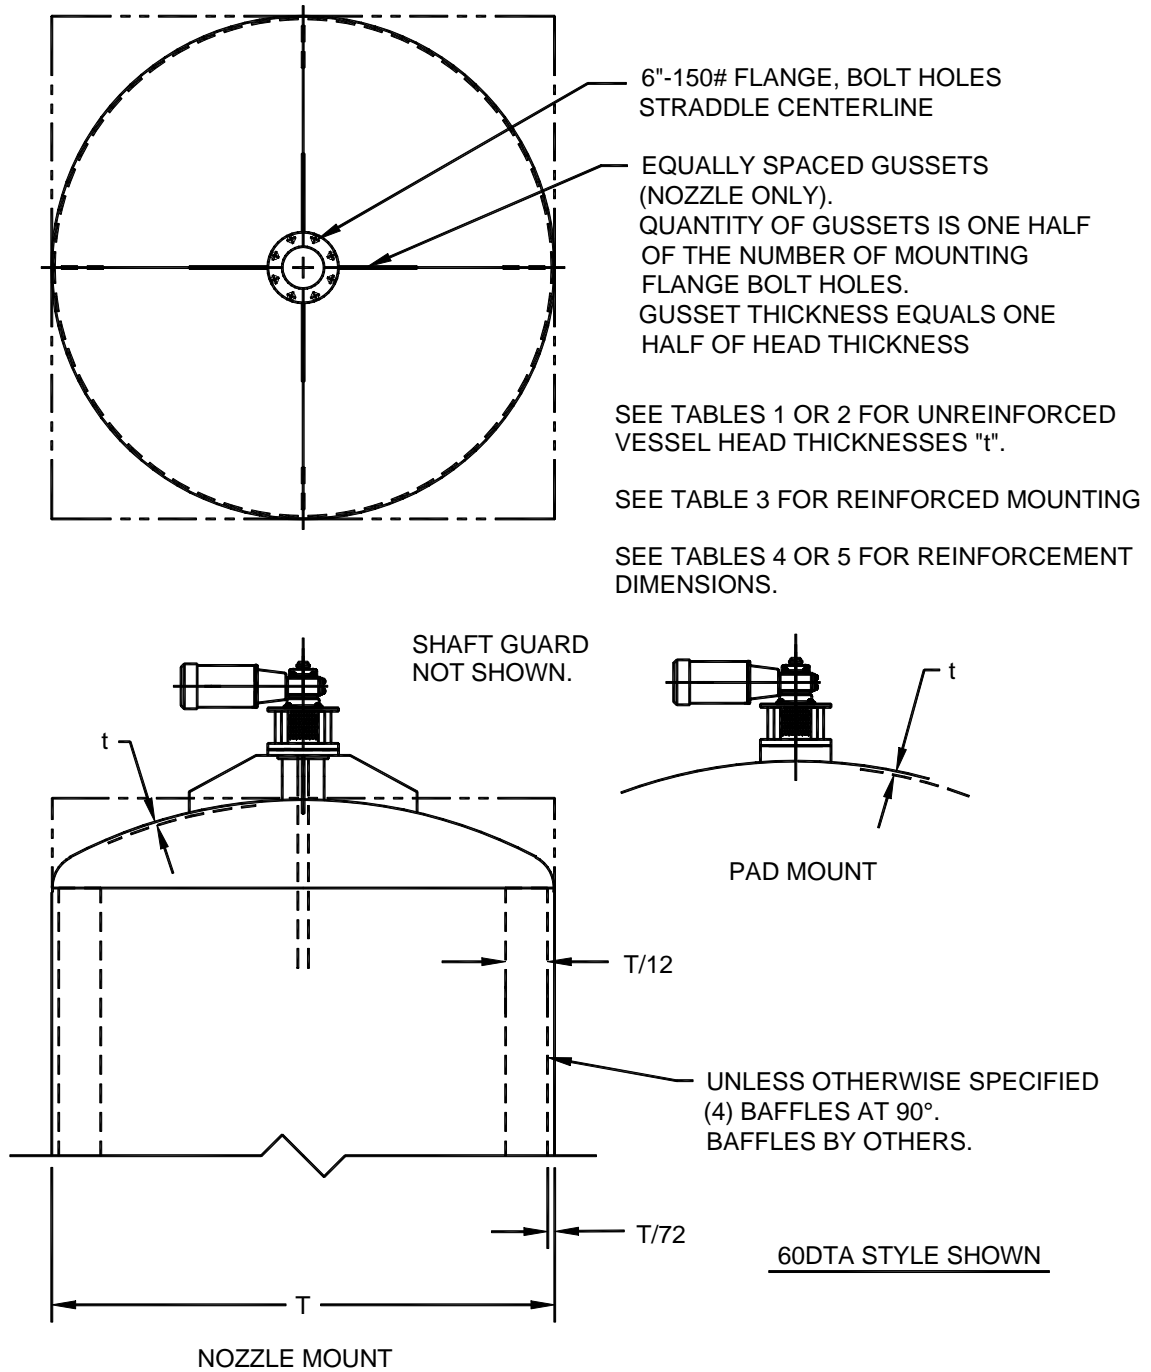
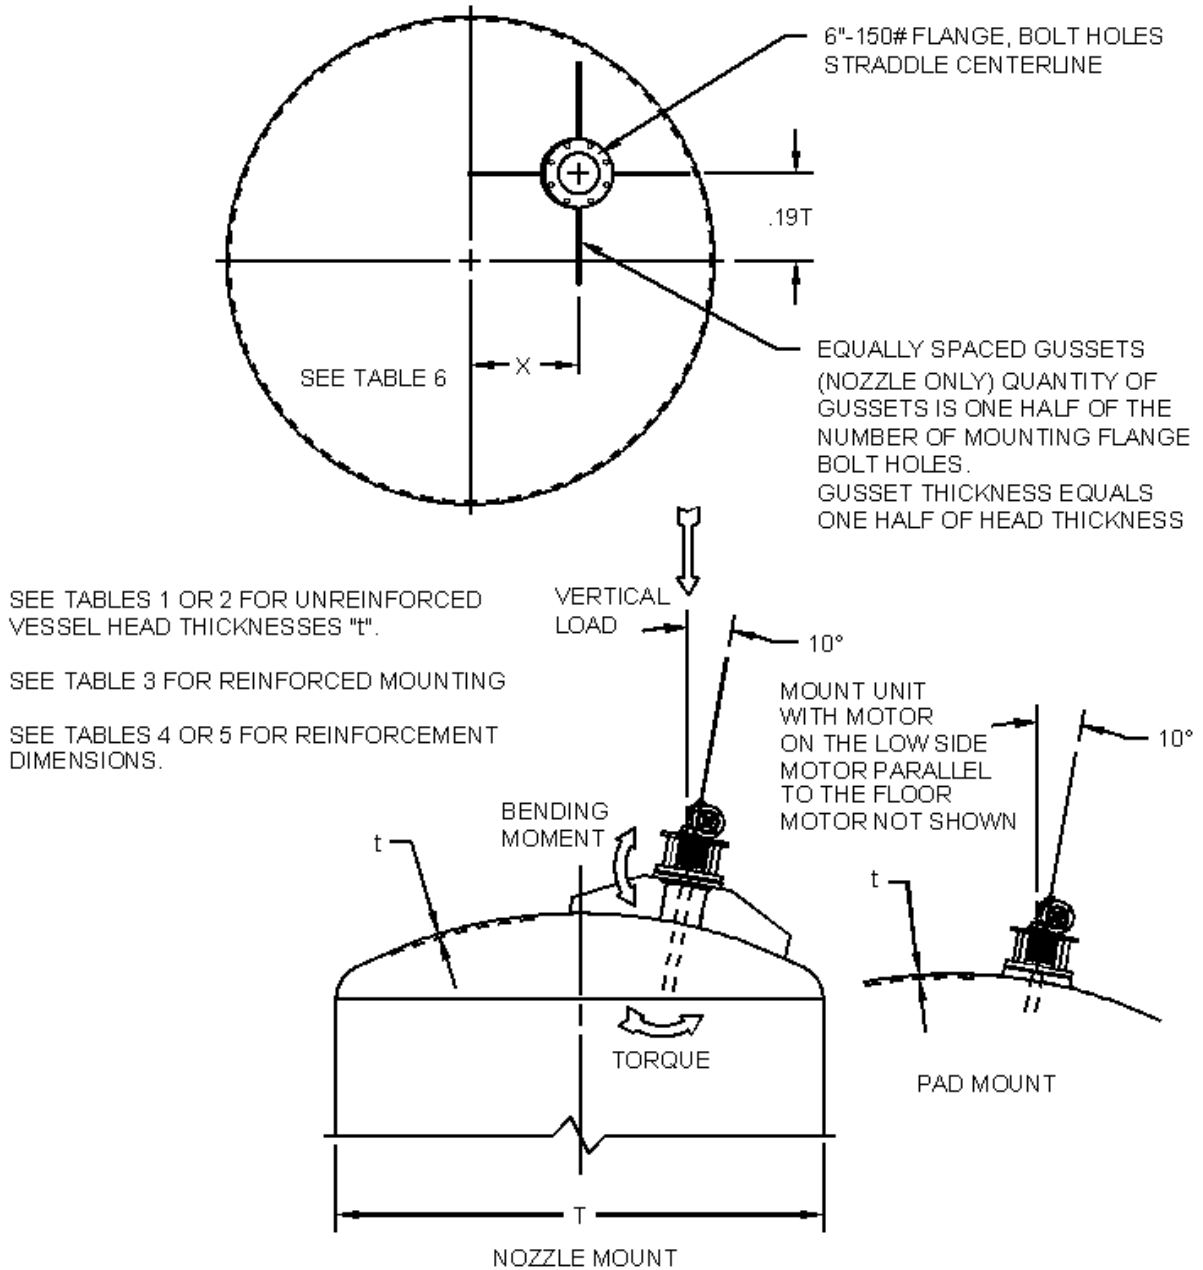

Figure 1: Models 60DTA, 60DTL Installation
Figure 11: Angle Mount Installation
2. If the designated vessel top head **does not** meet *Table 1 or Table 2* criteria, reinforcement support may be added to provide the equivalent rigidity of a thicker head, providing that the existing head thickness meets the minimum thicknesses as noted in *Table 3, below*, for nozzles or pads. Reference *Figure 1, page 5*.
Model 60DTA and 60DTL mixers may be angle mounted. See *Figure 11, page 16* for mixer nozzle location. See *Figure 1, page 5* for structural requirements.